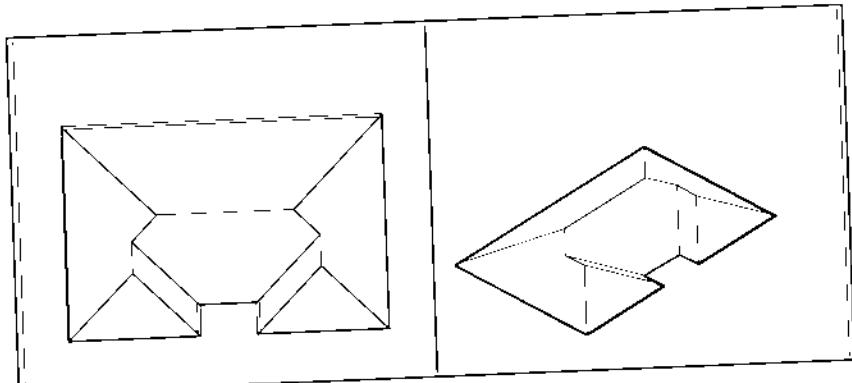

Figure 23.
5. The roof layers will appear in the active viewport only. To display the roof layers in the both viewports, as shown in Figure 23, enter AutoCAD's Regenall command at the command line.